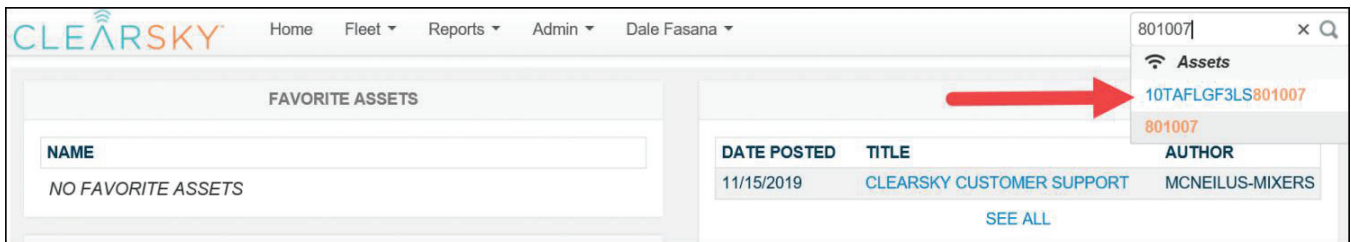

Figure 7
22. Make sure the truck's serial number appears in the search results Assets window and select the truck from the search results. See Figure 7.